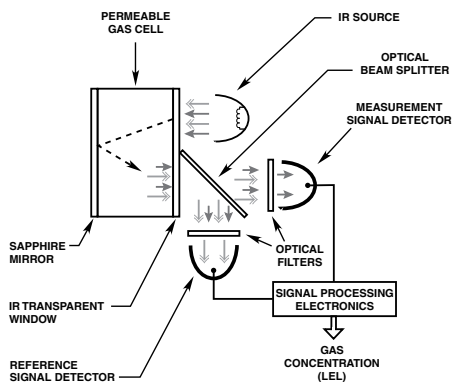

Figure 1—Measurement Scheme for Infrared Gas Detector
Flammable hydrocarbon gases diffuse through the weather baffle assembly into the internal measurement chamber, which is illuminated by an infrared (IR) source. As the IR passes through the gas within the chamber, certain IR wavelengths are absorbed by the gas, while other IR wavelengths are not. The amount of IR absorption is determined by the concentration of the hydrocarbon gas. A pair of optical detectors and associated electronics measure the absorption. The change in intensity of the absorbed light (active signal) is measured relative to the intensity of light at a non-absorbed wavelength (reference signal). See Figure 1. The microprocessor computes the gas concentration and converts the value into a 4 to 20 milliampere current output or digital process variable signal, which is then communicated to external control and annunciation systems.